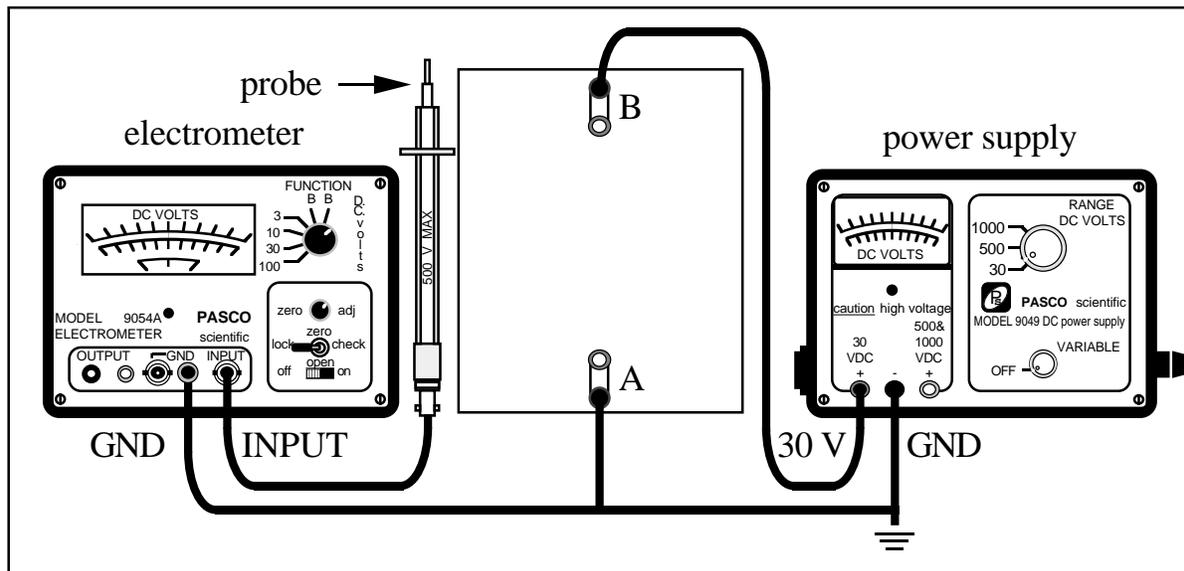

Figure 1: The apparatus.
- 3) With 24 volts across the terminals of the plotting board (as in Fig. 1) check the quality of your painted electrodes by using the electrometer probe to find whether there is an appreciable potential drop **along** the painted electrode when you have 24 volts **between** the electrodes.
- 4) With 24 volts connected as in Figure 1, ground the electrometer to the power supply ground. For the other electrometer lead use the sharp steel probe. Check the electrometer zero, and then move the sharp steel probe along the graphitized paper from the ground terminal A toward B until the electrometer reads +3 volts. (Hold the probe only by the insulated base, and avoid grounding the graphitized paper with your hand or you may get nonsensical results.) Press down on the sharp probe to record this location as a dot on the underlying white paper.
NOTE: Your results, in terms of the actual voltages may vary somewhat from the idealized sketch of Fig. 1 because of contact resistance, leakage currents and other losses. To compensate you can measure the voltage at points very close to the A and B electrodes to find values V_A and V_B respectively and then choosing voltage steps of $(V_B - V_A)/8$.
- 6) After you have drawn the equipotentials on the white sheet, dot in a few electric field lines (seven or so) as demonstrated in the right panel of Figure 1 (remembering that electric field lines are always perpendicular to equipotential contours.) latex